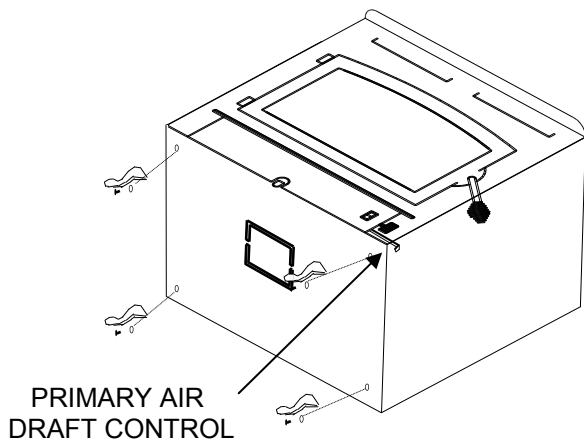

Figure 5
3. Check the primary air draft control to ensure that it slides freely.(See Figure 5).
5. **(Leg Kit):** If legs are to be used, obtain four legs, attach the legs to holes in bottom of unit with bolts and washers supplied with the leg kit. (See Figure 5).